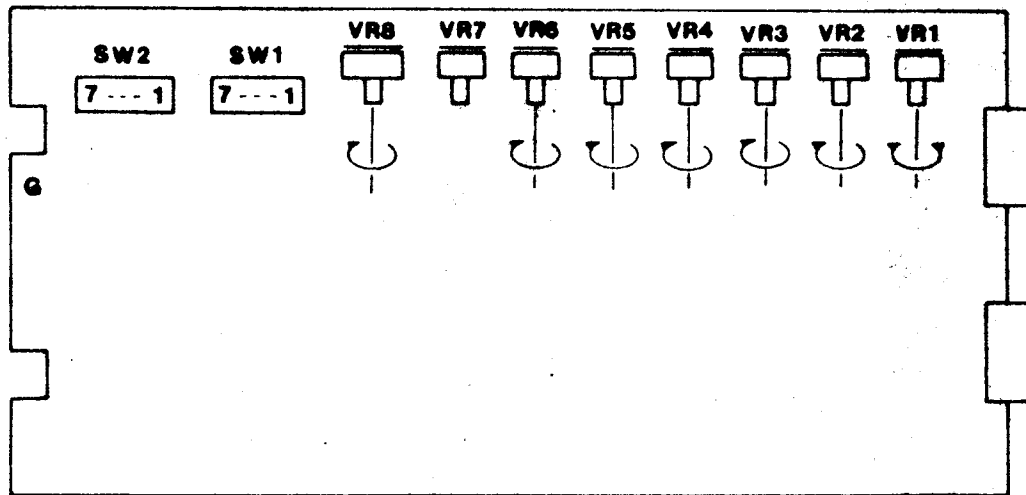

Fig. 4
(See Fig. 4 and Tables 1 & 2)
- o SW1 - SW3 ... Switches for the change-over of the replay scores (See Fig. 4 and Table 1)
- o SW2 ... Switch for the change-over 1 COIN - 1 PLAYER or 1 COIN - 2 PLAYERS (See Fig. 4 and Table 3)
- o SW3 ... Switch for the change-over the instruction languages (See Fig. 4 and Table 4)